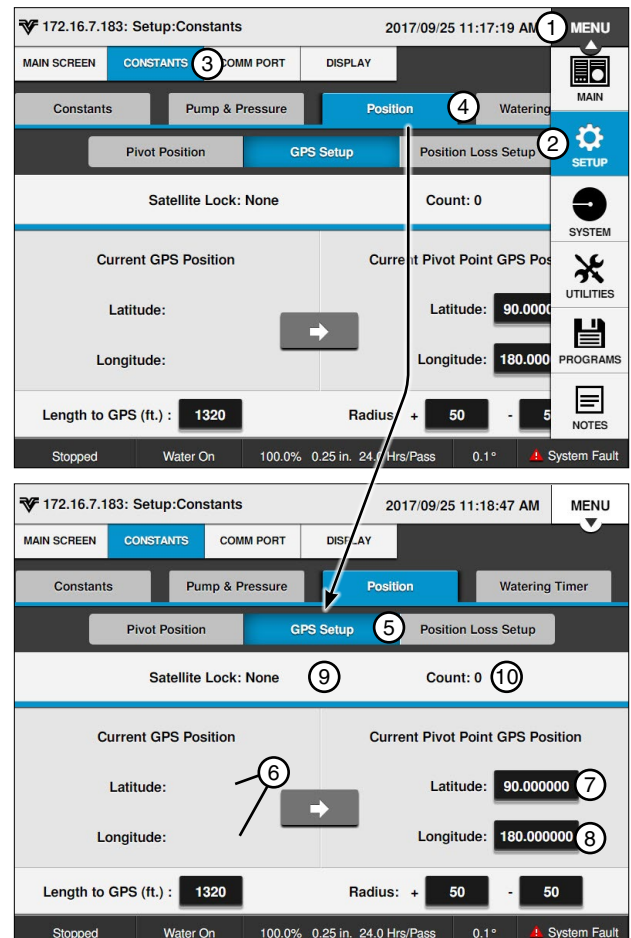

Figure 29-1 1. Menu 2. Setup 3. Constants 4. Position 5. GPS Setup 6. Current Position 7. Latitude 8. Longitude 9. Satellite Lock 10. Count
The current GPS latitude and GPS longitude of the GPS antenna is displayed at the top of the screen when it is locked on the satellite signal. The current position is only displayed when the Comm Port protocol is set to PLC GPS V2 or Valley GPS. Refer to Figure 29-1.
1. Push **Menu**, **Setup**, **Constants**, **Position**, and **GPS Setup** to display the GPS Setup screen. Refer to Figure 29-1.